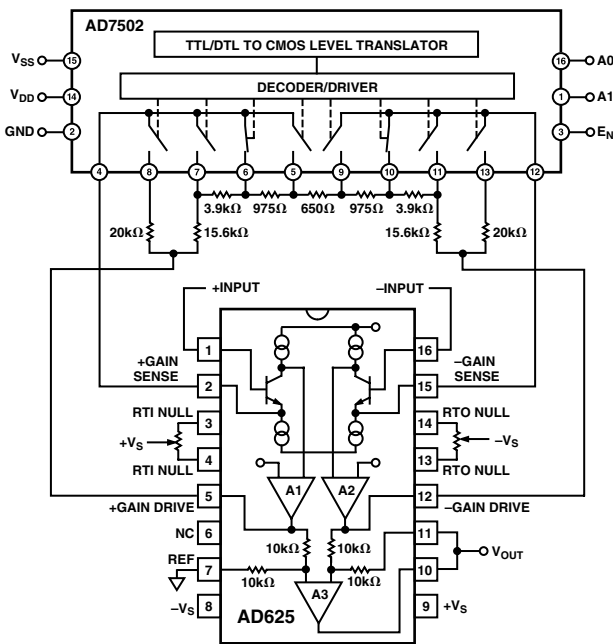

Figure 38. SPGA in a Gain of 16
Figure 38 shows an AD625 based SPGA with possible gains of 1, 4, 16, 64. R_G equals the resistance between the gain sense lines (Pins 2 and 15) of the AD625. In Figure 38, R_G equals the sum of the two 975 Ω resistors and the 650 Ω resistor, or 2600 Ω. R_F equals the resistance between the gain sense and the gain drive pins (Pins 12 and 15, or Pins 2 and 5), that is R_F equals the 15.6 kΩ resistor plus the 3.9 kΩ resistor, or 19.5 kΩ. The gain, therefore equals:
can be used to calculate the necessary feedback resistors for any set of gains. This formula yields a network with a total resistance of 40 kΩ. A dummy variable (j) serves as a counter to keep a running total of the preceding feedback resistors. To illustrate how the formula can be applied, an example similar to the calculation used for the resistor network in Figure 38 is examined below.
- 2) Before making any calculations it is advised to draw a resistor network similar to the network in Figure 41. The network will have (2 × M) + 1 resistors, where M = number of gains. For Figure 38 M = 3 (4, 16, 64), therefore, the resistor string will have seven resistors (plus the two 20 kΩ “side” resistors for unity gain).
- 5) If different resistor values are desired, all the resistors in the network can be scaled by some convenient factor. However, raising the impedance will increase the RTO errors, lowering the total network resistance below 20 kΩ can result in amplifier instability. More information on this phenomenon is given in the RPGA section of the data sheet. The scale factor will not affect the unity gain feedback resistors. The resistor network in Figure 38 has a scaling factor of 650/625 = 1.04, if this factor is used on R_{F_1} , R_{F_2} , R_{F_3} , and R_G , then the resistor values will match exactly.